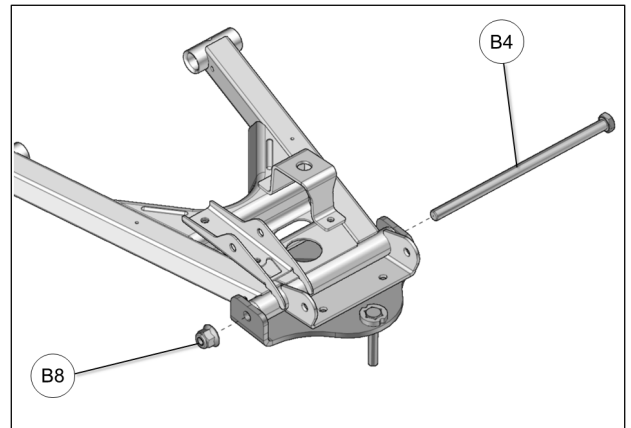

Fig. 7
6. Slide M12x260 mm assembly bolt (**B4**) through a-arm. Thread nut (**B8**) on bolt but do not tighten immediately. See Fig. 7